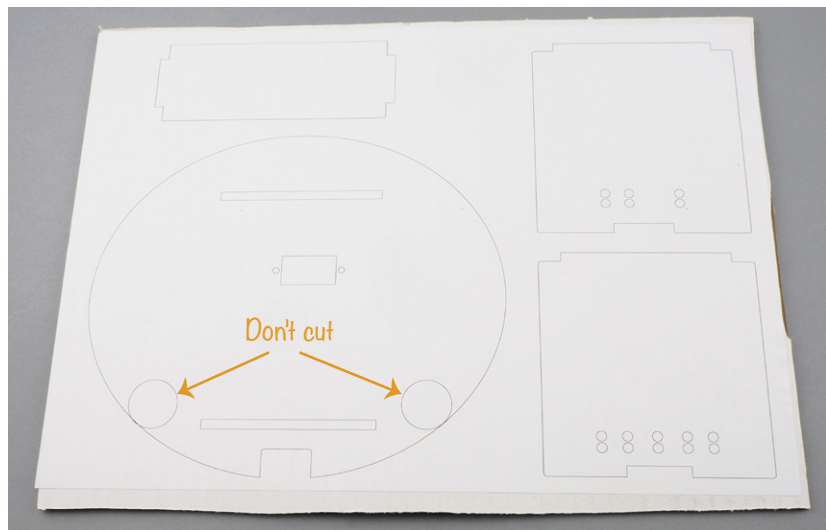

Figure 6-10: The paper template glued to a piece of cardboard
7. Now let's start assembling the cardboard chassis that will hold everything together. To make this easier, I've provided a template that can be downloaded with the code for the book. The template is in the folder *other downloads* and is called *Animatronic_Head_Template*. It is available in PDF, PNG, and SVG formats. Download it, print it out, and fix it onto a slightly larger piece of cardboard, as shown in Figure 6-10.
8. Except for the places noted in Figure 6-10, cut along the lines. This will give you the pieces of cardboard shown in Figure 6-11. For many of the cuts, scissors will be fine, but